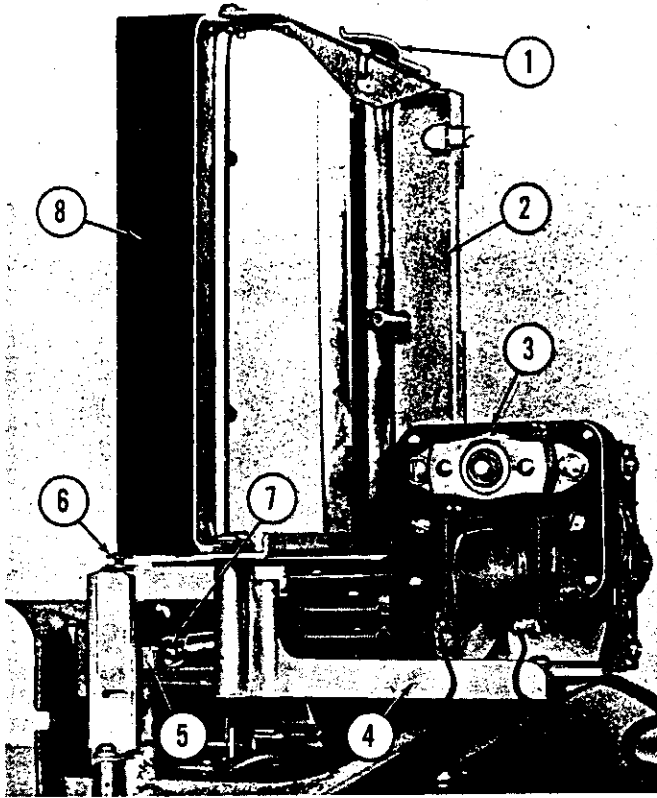
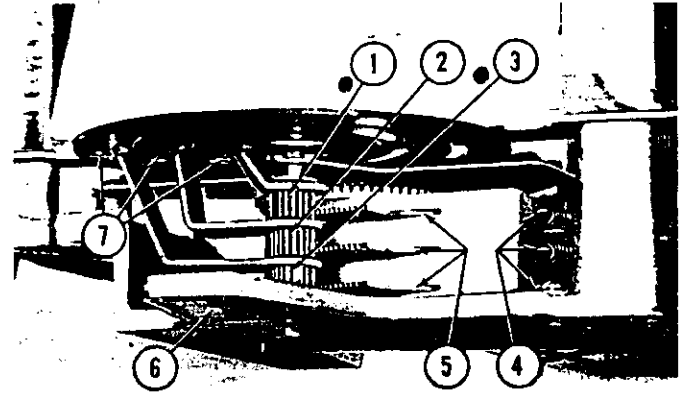
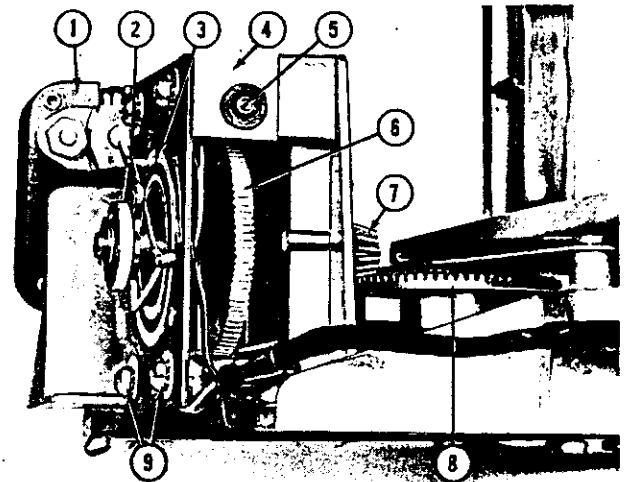

Fig. 18. PROGRAM HOLDER, PAGE ASSEMBLY, L.H.
Fig. 19. PROGRAM SELECTOR
Fig. 20. PROGRAM SELECTOR
e. Program Holder for the Page Assembly. (Fig. 18)
(1) The program holder (Item 2) for the page assemblies is mounted directly over the program selector unit to provide engagement of the drive pins, on the lower edge of the movable pages, with the corresponding holes in the drive ring and pinion assemblies (see Fig. 19, Items 1, 2, 3, and 7). The latch (Item 1, Fig. 18) holds the page assembly in place after the drive pins have been engaged with their respective drive rings.
(2) The support castings for the right hand program selector assembly differ from the left hand castings, however, the program selectors, right and left, are identical.
(3) Fig. 18 shows several other items that are identical in both the right and left installations. Item 3 shows the rear view of the drive motor; Item 4, the program selector as mounted for left hand operation; Item 5, one of the three thumb screws that hold the program selector in the cheek casting; Item 6, one of the two truss head screws that hold the "program holder and silk screen assembly", described in "a"; and Item 7, one of the two panel lamps for the translucent program selector switch buttons.
f. Program Selector, (Figs. 19 and 20)
The program selector functions to turn the pages, one at a time when the program selector button is pressed. The drive ring and pinion assemblies (Items 1, 2, and 3, Fig. 19) are driven by the three segment and roller assemblies shown at Item 5. The roller component of these assemblies is driven by the cam surfaces of the cam and bearing assembly (Item 8, Fig. 20) and segments are retracted by the three
springs shown at Item 4 of Figure 19. The mounting casting and stud assembly (Item 6) is the supporting member for the entire program selector unit.
g. Motor and Gear Unit. (Fig. 20)
(1) The motor and clutch assembly (Item 1) engages the shaft and worm assembly (Item 5) when the motor is energized. The shaft and gear assembly (Item 6) is thus set in motion to operate the contactor (coupling, insulator, and spring assembly) (Item 2) and the pinion (Item 7). The cam (Item 8) will turn one quarter of a revolution for each complete turn of the contactor. In this way the contactor stops the motor each time a page is turned.